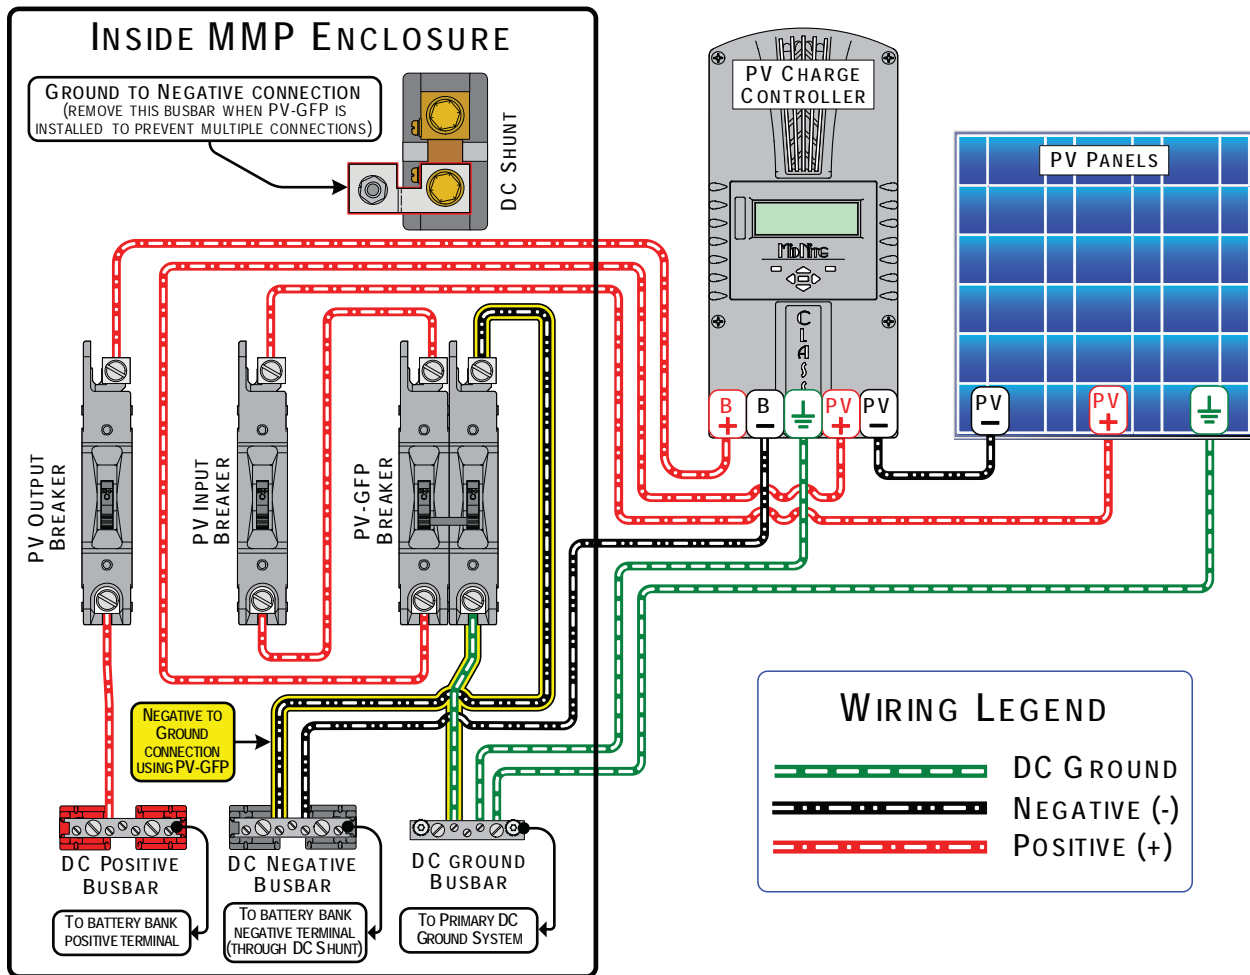

Figure A-4c, Wiring DC Breakers
4. Wire the breaker(s) to the DC circuit, use Figure A-4c to assist in wiring the breaker.